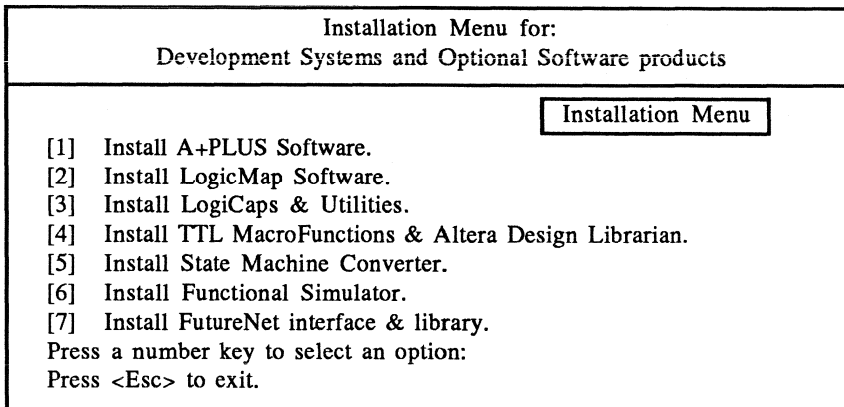

Figure 1-10. Installation Menu
5. Now, the Installation Menu is displayed. See Figure 1-10.